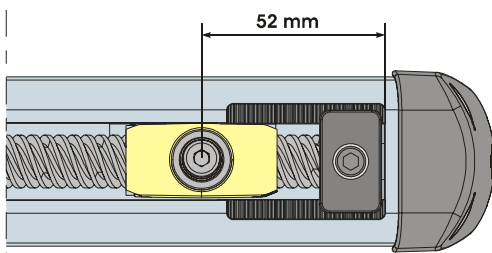
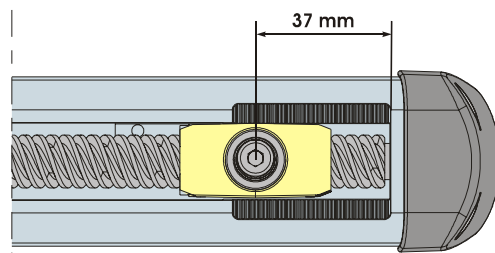

Fig. 9
Fig. 10
3) Check if the front fitting is in the correct position as shown in Fig.9 (with closing mechanical travel stop) or in Fig.10 (without closing mechanical travel stop). If this is not the case, temporarily supply power to the operator to position the fitting.